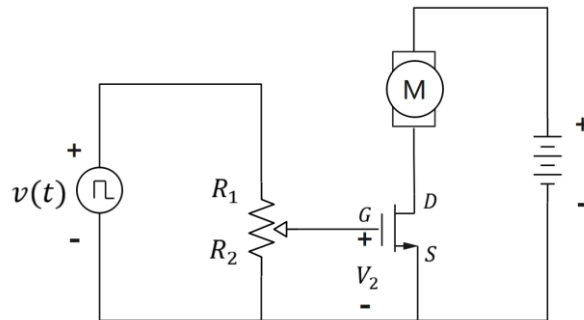

Figure 2: Slowing the motor speed in the motor-drive circuit
Use the function generator to slow the motor as shown in Figure 2 below. Use a square wave with **7V amplitude, 1kHz, and 3.5V offset**. Observe the voltage  $V_2$  on the oscilloscope’s Channel 1. Note that you will need to make sure the battery is **only connected between the motor and the source (S) pin of the MOSFET**. It should **not** be connected to the positive terminal of the function generator.